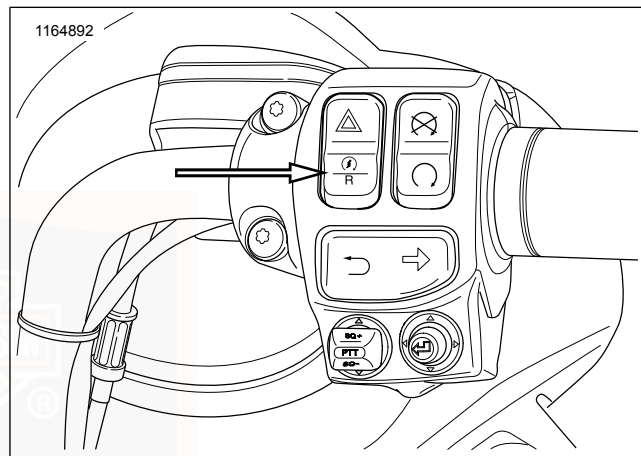

Figure 49. Reverse Switch (typical)
2. See Figure 49. With the vehicle started and in neutral, press and hold the reverse switch in the right side controls until the reverse lamp illuminates. **With fairing:** The lamp in the tachometer indicates that the reverse is enabled. See Operation > Instruments (Page 84). **Without fairing:** The lamp in the speedometer indicates that the reverse is enabled. See Operation > Instruments (Page 84). Release the reverse switch. The neutral lamp turns off when the reverse lamp turns on.